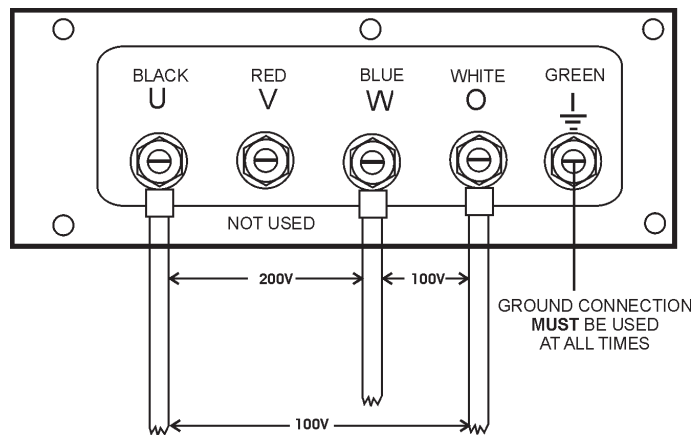

Figure 30. Output Terminal Lugs 1Ø-200/100V Connections
2. Connect the load wires to the **Output Terminal Lugs** as shown in Figure 30.